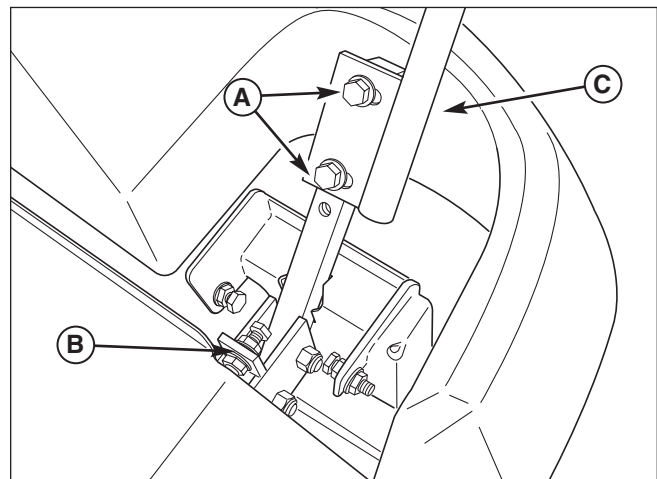

Figure 26. Control Lever Adjustment
Loosen the mount bolts (A, Figure 26) and pivot the lever(s) (C) to align with each other.
Loosen the jam nuts and adjust the placement bolt (B, Figure 26) in or out to properly adjust the lever end spacing.